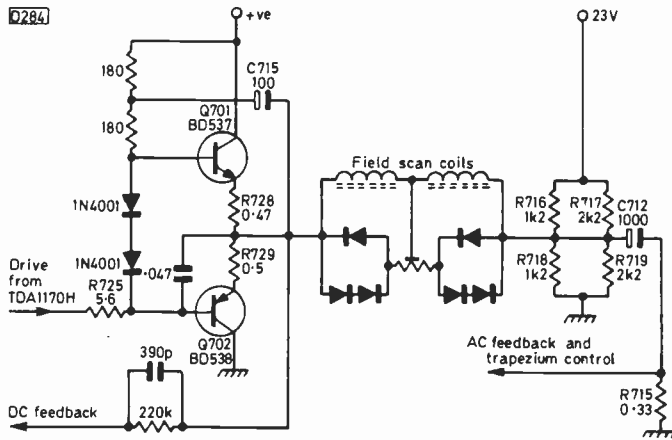

Fig. 2: The Field output stage.
– the TDA1170H i.c. is followed by a BD537/BD538 output stage (see Fig. 2). In cases of field collapse, check whether the 23V supply is present at pin 2 of the chip. If